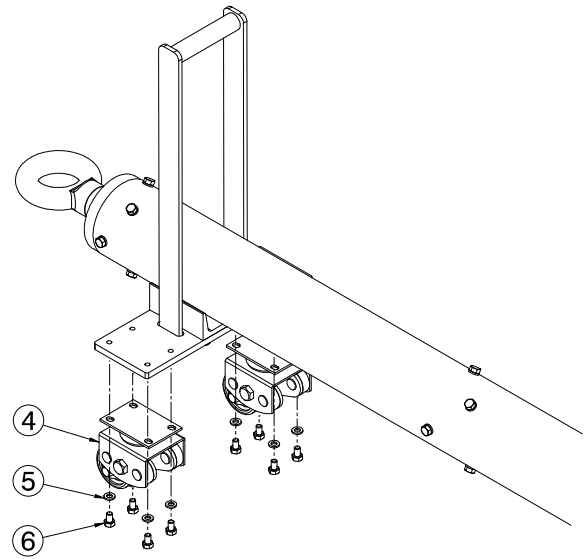

FIGURE 5
Attach the two casters (Item 4) to the caster plate weldment, using the (8) 5/16-24 x ½ inch long bolts (Item 6) and (8) 5/16 inch lockwashers (Item 5) provided in the kit. **Reference Figure 5.**